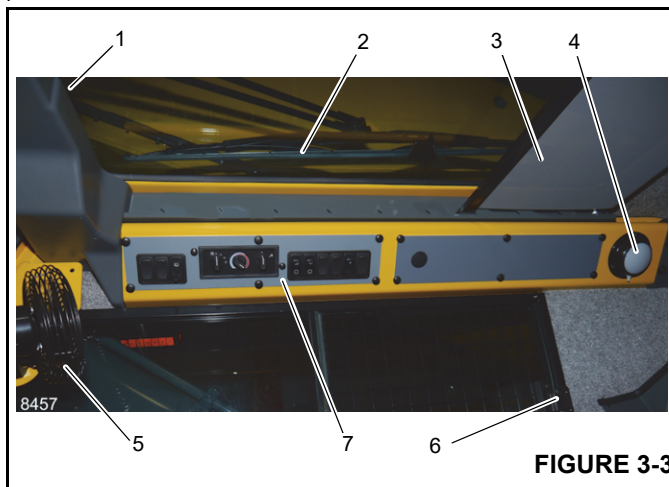

FIGURE 3-3
The Skylight Window Latch (1) Figure 3-3 is at the front of the window. Squeeze latch and slide window to the rear to open. To close, slide window forward until the latch engages.
The Skylight Wiper (2) (Figure 3-3) is controlled by the Skylight Wiper Switch, (4) (Figure 3-4), and operated by the Wiper Motor.
The Skylight Sunscreen (3) (Figure 3-3) reduces direct sunlight. The sunscreen is self retracting and can be set to screen all light or adjusted rearward by moving it to notches provided.
The cab Dome Light (4) (Figure 3-3) is on the right rear corner of the cab overhead console and provides illumination in the cab. The dome light is controlled by a switch on the light.
The Cab Circulating Fan (5) (Figure 3-3) is located on left front side of cab above the window frame. A swivel allows the fan to be rotated and a switch on the fan base controls the fan. The switch has a high, low and off position.
Window on the right side of the cab can be opened. Squeeze latch (6) (Figure 3-3) to release and slide forward. To close, slide window rearward until latch engages.